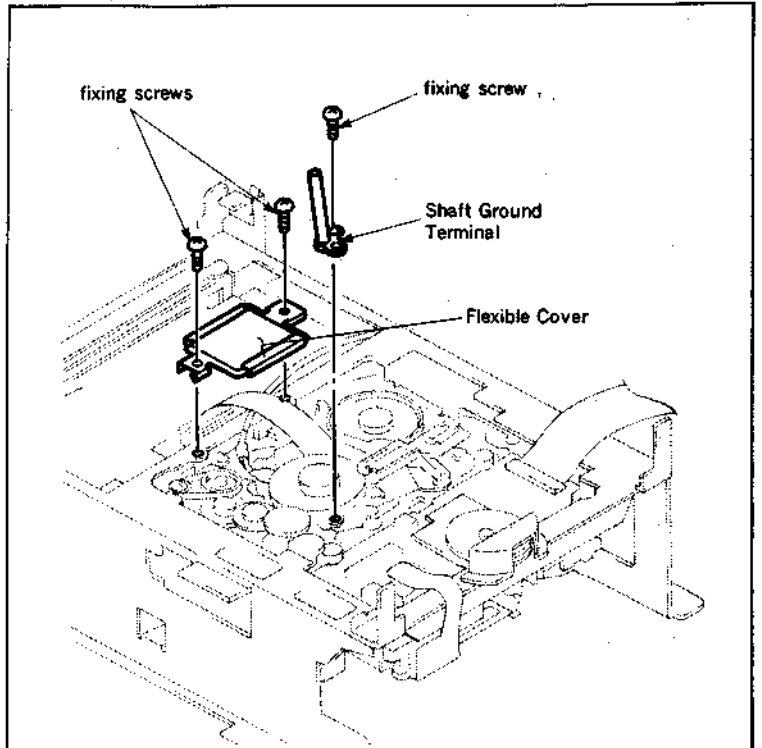
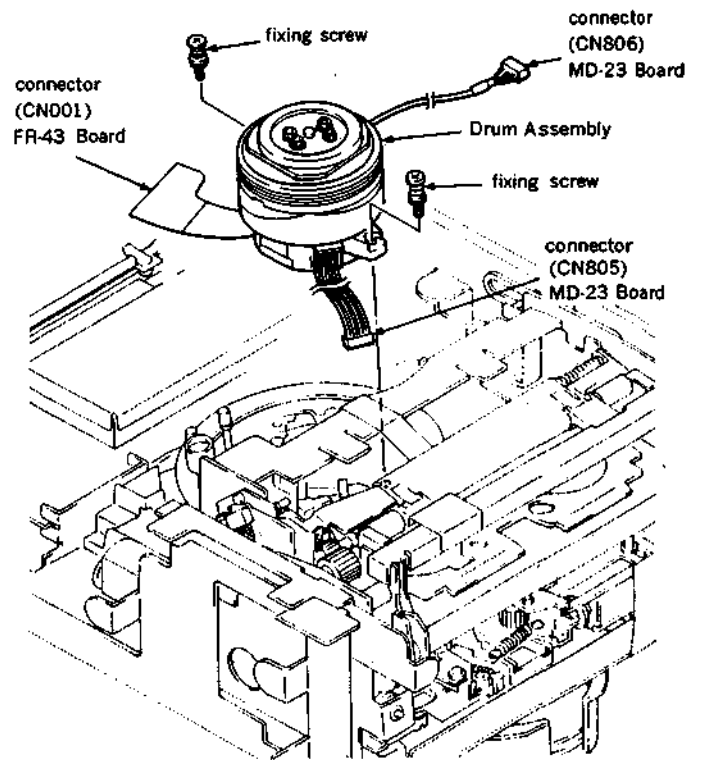

Fig. 1
Fig. 2
- (1) Open the MB-19 Board referring to Section 2-8.
- (2) Remove the Cassette-up Compartment Assembly referring to Section 2-13.
- (3) Remove the Fly Wheel referring to Section 7-2-1.
- (4) Open the HK-5 and SE-10 Boards referring to Sections 2-9 and 2-10.
- (5) Remove the two fixing screws and remove the Flexible Cover. (fig. 1)
- (6) Disconnect the connectors (CN805, 806) on the MD-23 Board and disconnect the connector (CN001) on the FR-43 Board.
- (7) Remove the fixing screw and remove the Shaft Ground Terminal.
- (8) Remove the two fixing screws and remove the Drum Assembly. (fig. 2)